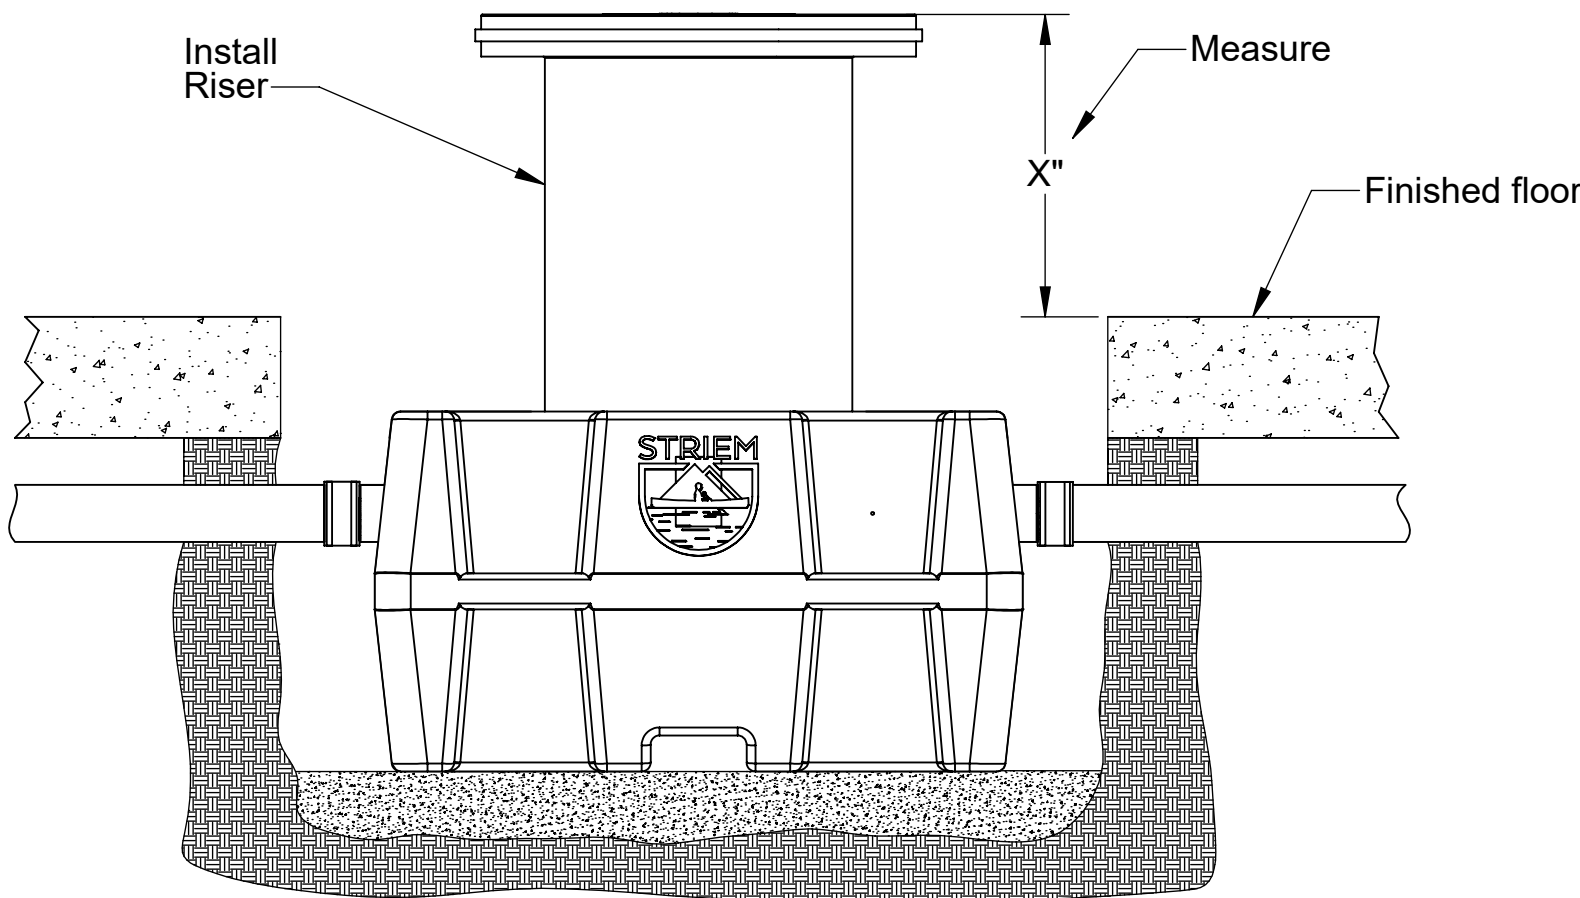

Figure 2
- Push riser into ring until it stops (about 1 inch). See Figure 2.
- Measure the distance from the top edge of the riser down to the finished floor. Make sure to account for any future tile work in your measurment. See Figure 2.